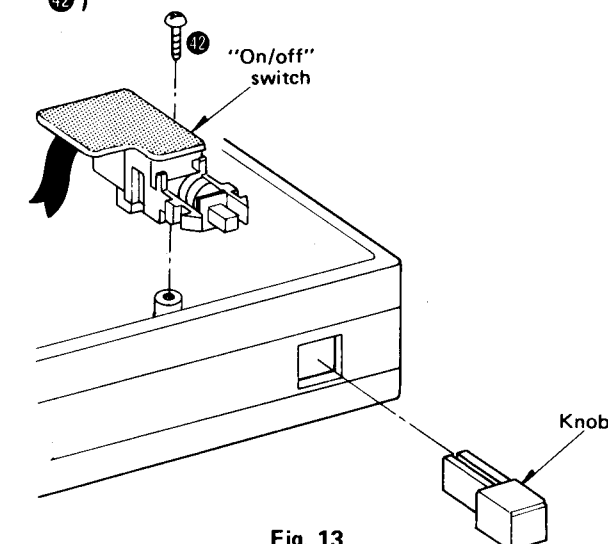

Fig. 13
3. Remove the setscrew of the on/off switch. (Fig. 13 : 42)